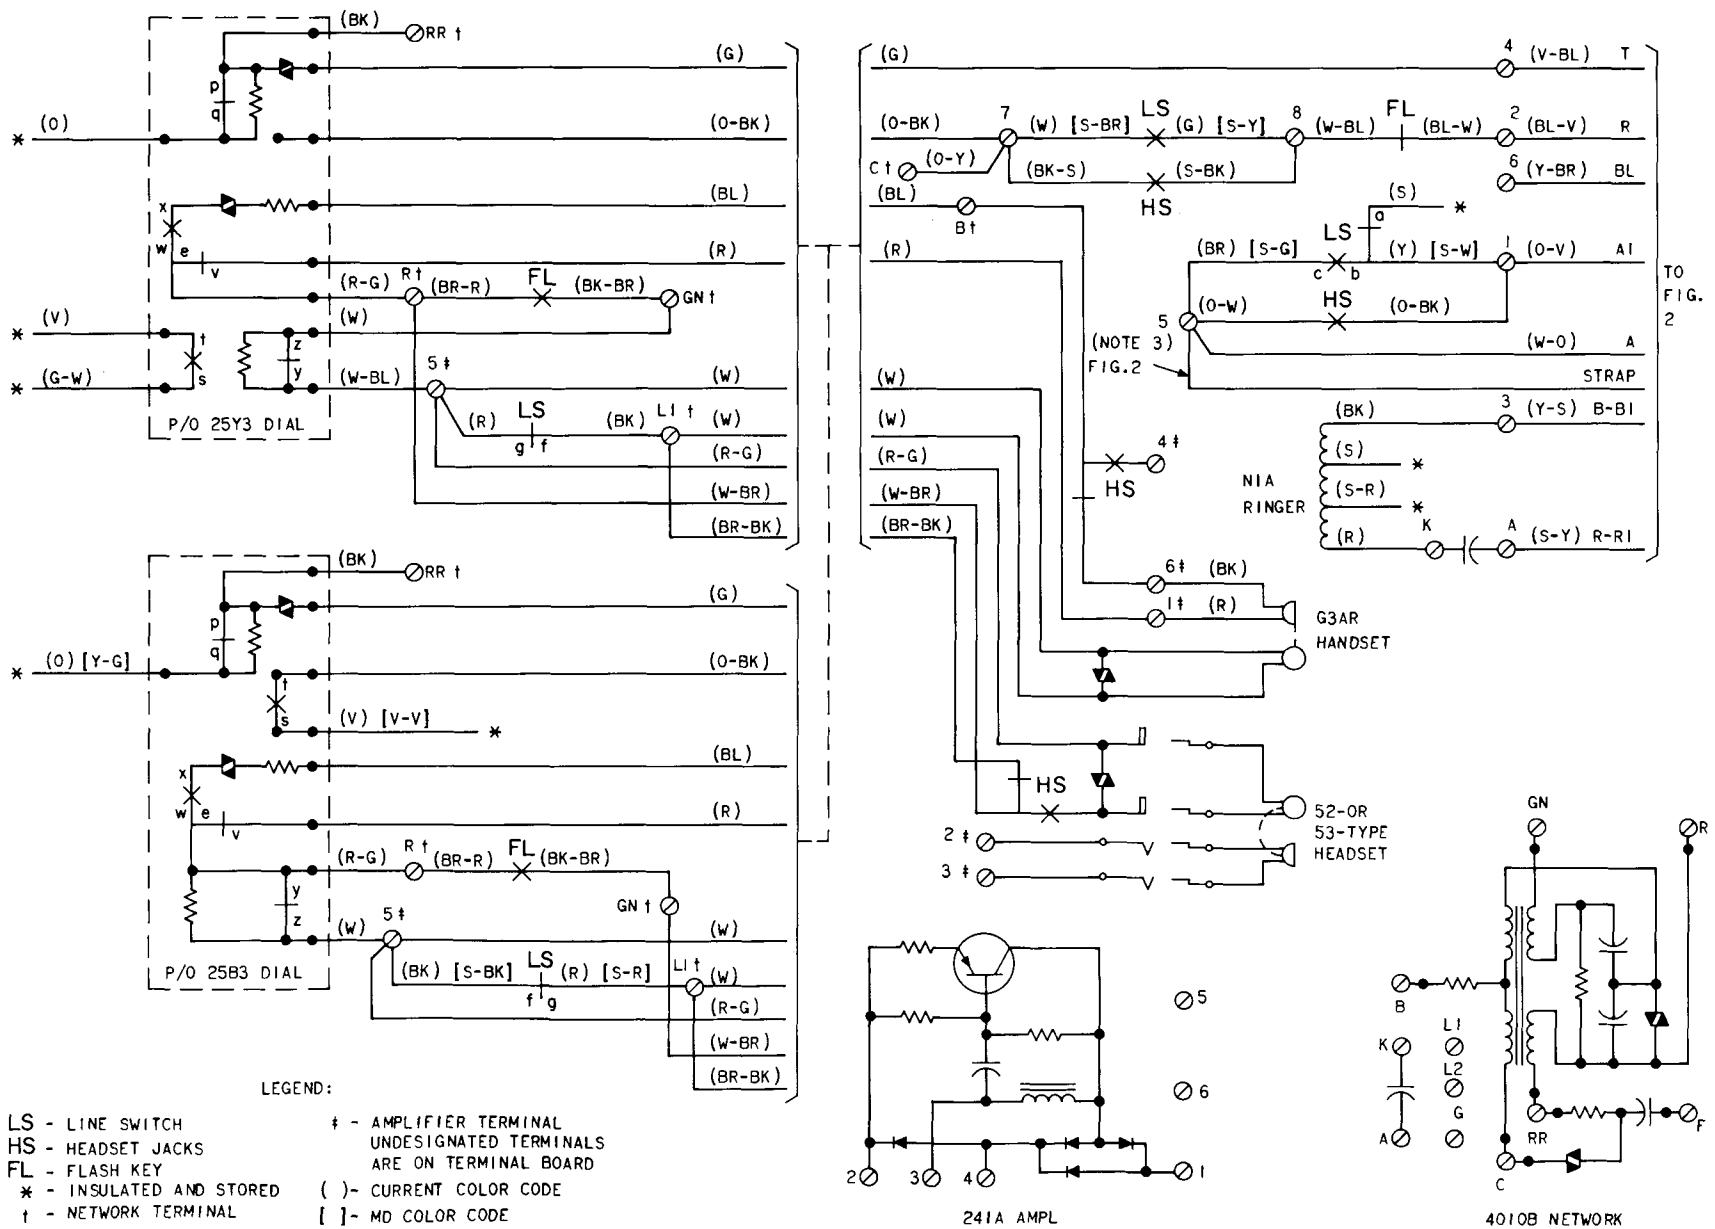

Fig. 1—1636- and 1637-Type Telephone Set, Connections
1. See (X), (Y), and (Z) options, Fig. 1 or 2. Terminals referred to are on telephone set terminal board.